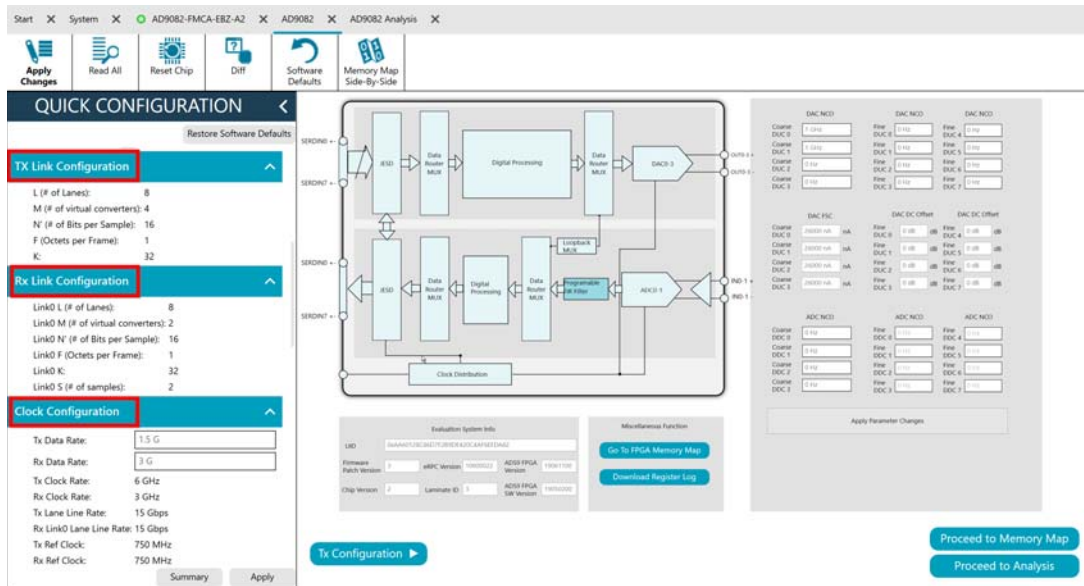

Figure 25. Configuring the **AD9081** or **AD9082** for Full Bandwidth Mode Using Chip View and Direct External Clock
6. Select the options for the other sections (**TX Link Configuration**, **Rx Link Configuration**, and **Clock Configuration**) in the **QUICK CONFIGURATION** pane as shown in Figure 25.